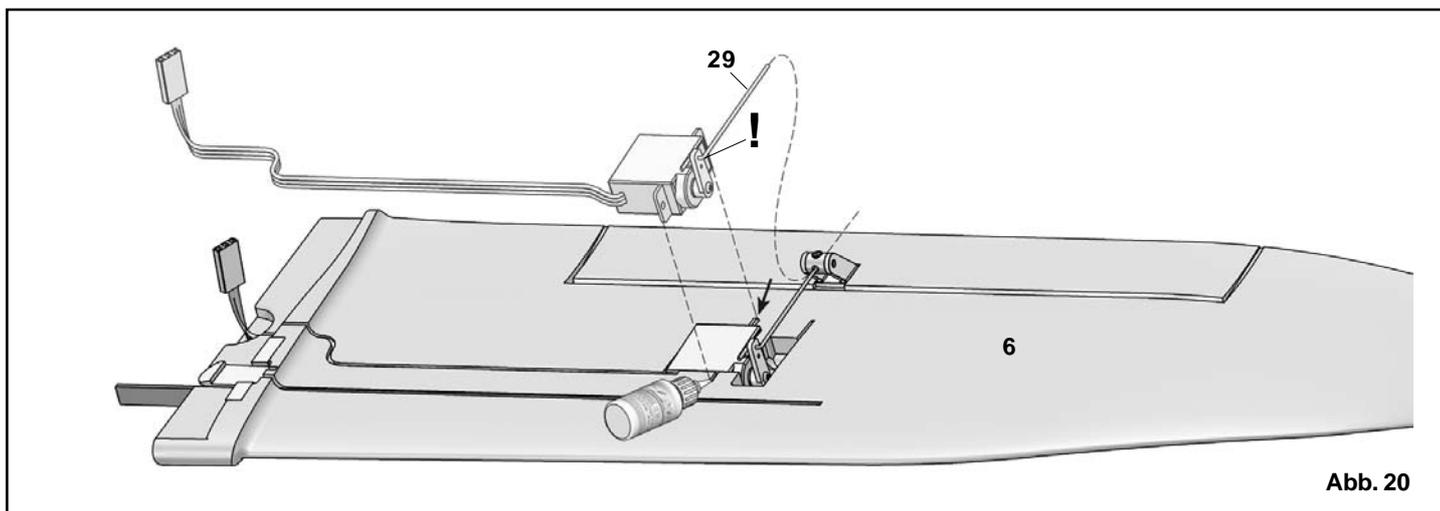

Abb. 20
5.2 Installing the wing-mounted servos, Fig. 20